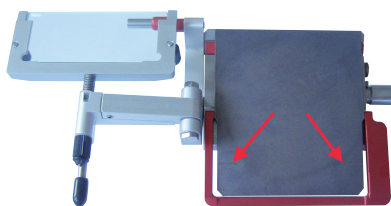

Fig. 56a
- Fold the anti-roll guide to the side and fasten the extraction nozzle to the pressure plate (using 4 magnets on the rear side of the nozzle) – see mark (Fig. 56a).